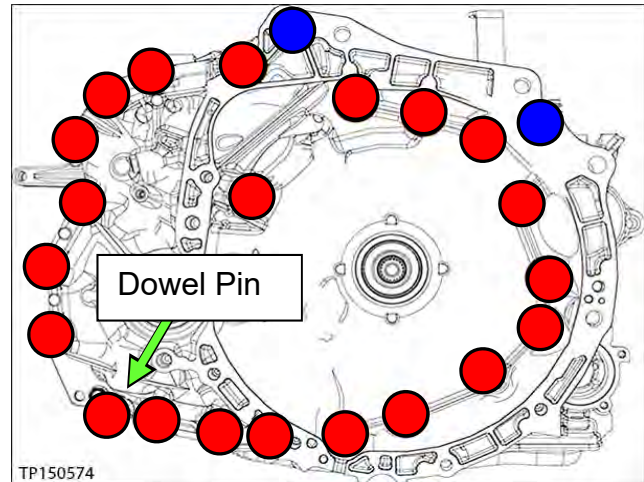

Figure 28
15. Remove all 23 converter housing mounting bolts (see Figure 28).